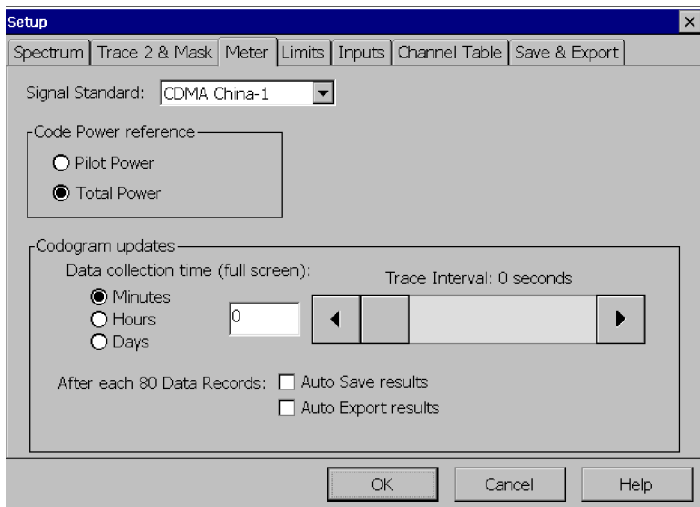

Figure 3-58: Meter tab of the setup window
2. Tap the **Meter** tab. See Figure 3-58.